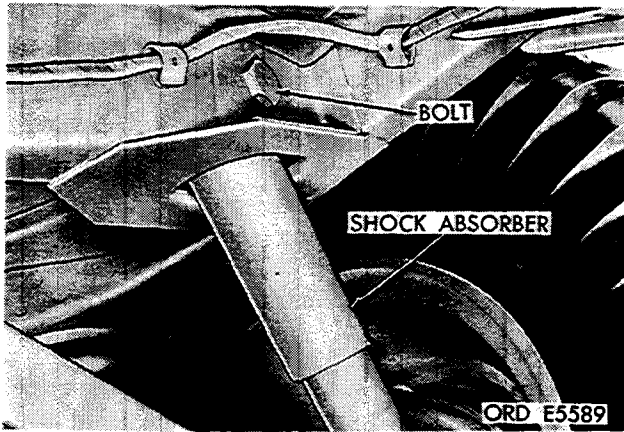

Figure 2-344. Remove rear shock absorber from frame.
(3) Remove locknuts, plug, bushings, washers, and bolts, securing shock absorber to frame and suspension arm (151, M151A1, M151A1C and M718) (fig. 2-344).